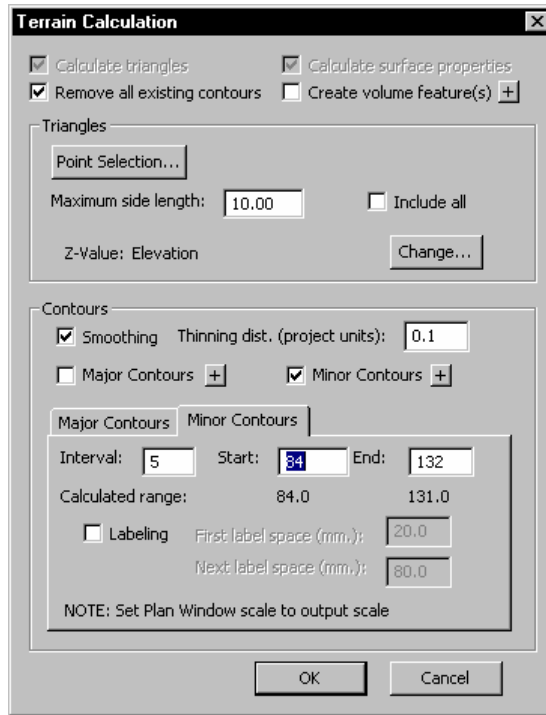

Figure 12.9: Terrain Calculation Dialog
11. Press the *Generate TIN*  button to create a digital terrain model (DTM) and calculate contours. Set the parameters as shown in the Figure 12.9 Press OK